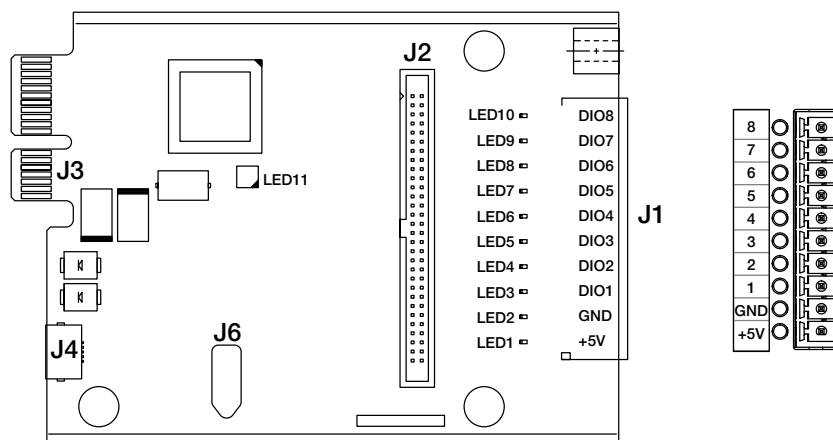

Figure 2. Digital I/O Card
8. Make connections to the option card. See Figure 2 and Table 3.